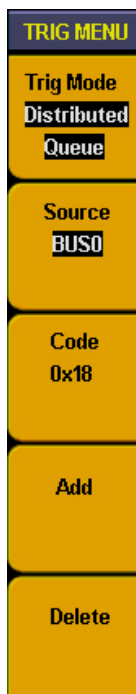

Fig.5-62: Distributed queue trigger menu
5. **Distributed queue trigger:** make BUS as trigger source and dis-continuous setting data in BUS as trigger condition to generate trigger and also can set 8 data at the same time. Distributed queue trigger menu refer as **Fig.5-62**